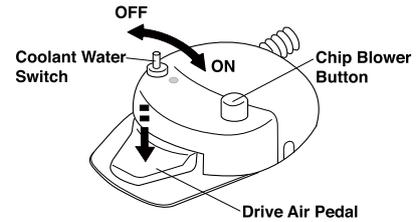

Fig.3-32 Foot Control (Type A2)
#### (1) Foot Control (Type A2) (Fig.3-32)